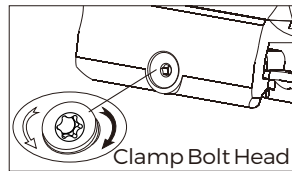

Fig6-2
- on the side of the mount. (See Fig 6-2) Before installation, loosen the screw to release clamp using included Torx wrench, and then;